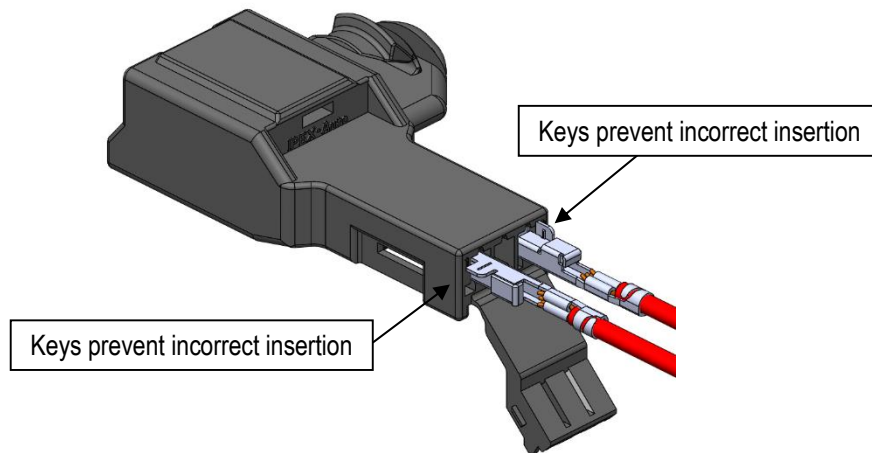

Fig 25. Incorrect terminal insertion
- ⑤ Terminals won't fit into the housing coreholes, if inserted in the wrong orientation (see Fig. 25).
- ① Terminals must be inserted in the orientation instructed. Forcibly inserting terminals in any other orientation may result in damage or deformation. Furthermore, if the terminals are inserted with incorrect orientation, terminal key prevents insertion into coreholes. (see Fig.25)
- ② Once the terminal is inserted, do not apply excessive pulling force to the wire.
- ① After terminal insertion is complete, close the secondary lock part.